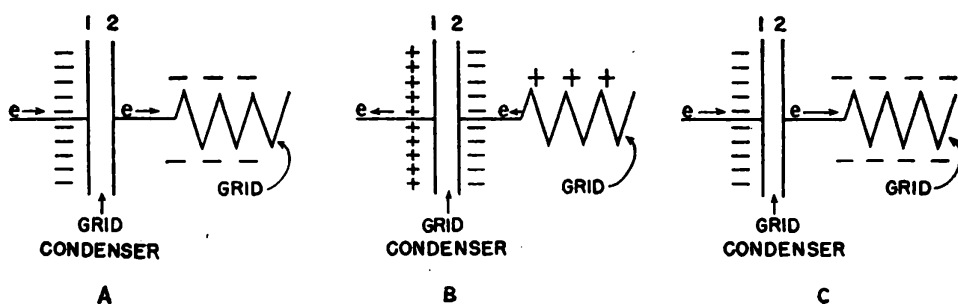

Figure 5.—Action of grid leak condenser.
But suppose you don't want to bother with "C" batteries—they wear out, are heavy and fragile. All right, put a fixed condenser and resistor in the grid circuit. Here's how this set-up works. When the input current goes negative, plate 1 of the condenser in figure 5 (A) takes on a negative charge. Some of the negative electrons on the other plate of
the condenser are repelled and driven over into the grid, making it negative. When the input circuit becomes positive on the next cycle of alternation, plate 1 of the fixed condenser in figure 5 (B) becomes positive, the negative electrons out on the grid are attracted back to plate 2 of the condenser, and the grid is positive again.
time your input circuit goes negative as in figure 5 (C), the negative electrons on plate 2 scurry out into the grid to get away from the negatives rushing into plate 1, and your grid gate is shut fast and tight against the flow of electrons from the filament to the plate. Your condenser system WORKS, just as well as the "C" battery did, in fact.